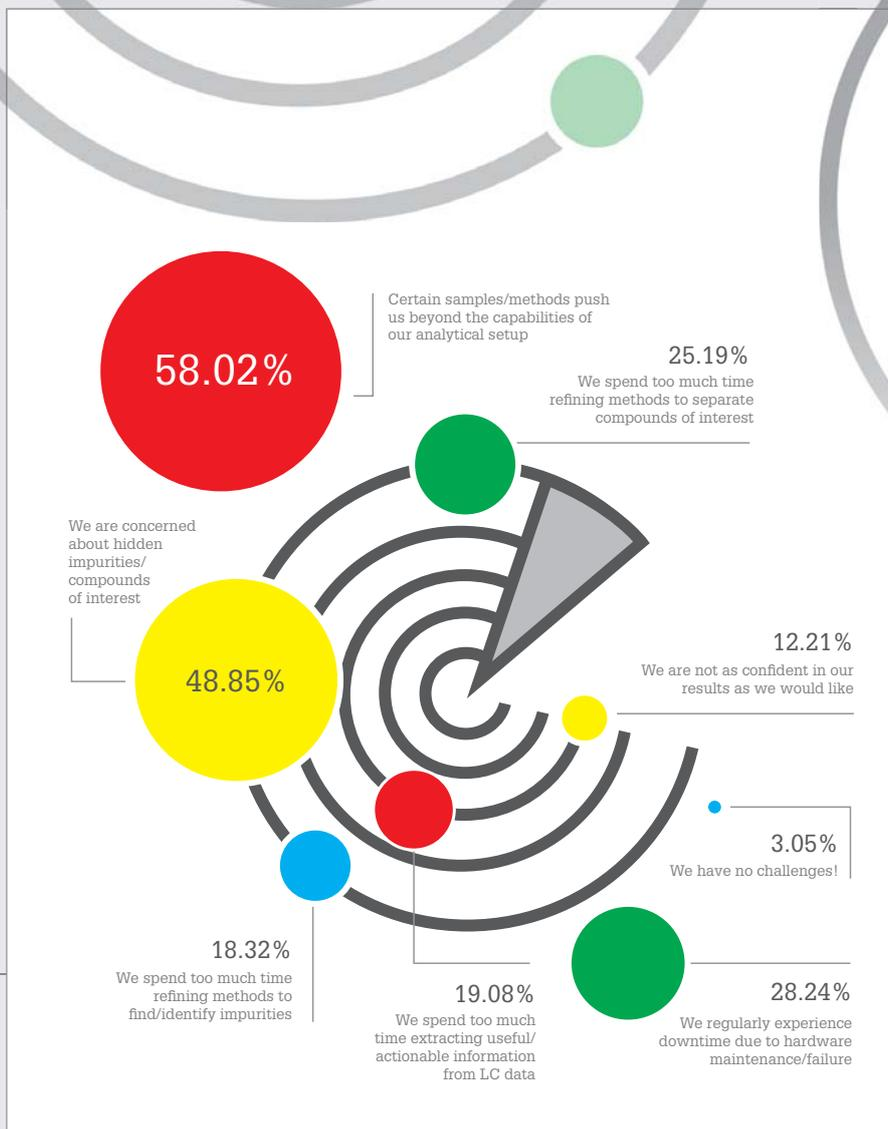

Figure 1. Which of the following statements do you identify with?
*Survey respondents in pharma, chemical and academic settings identified their analytical challenges (Figure 1). Here are the top three:*